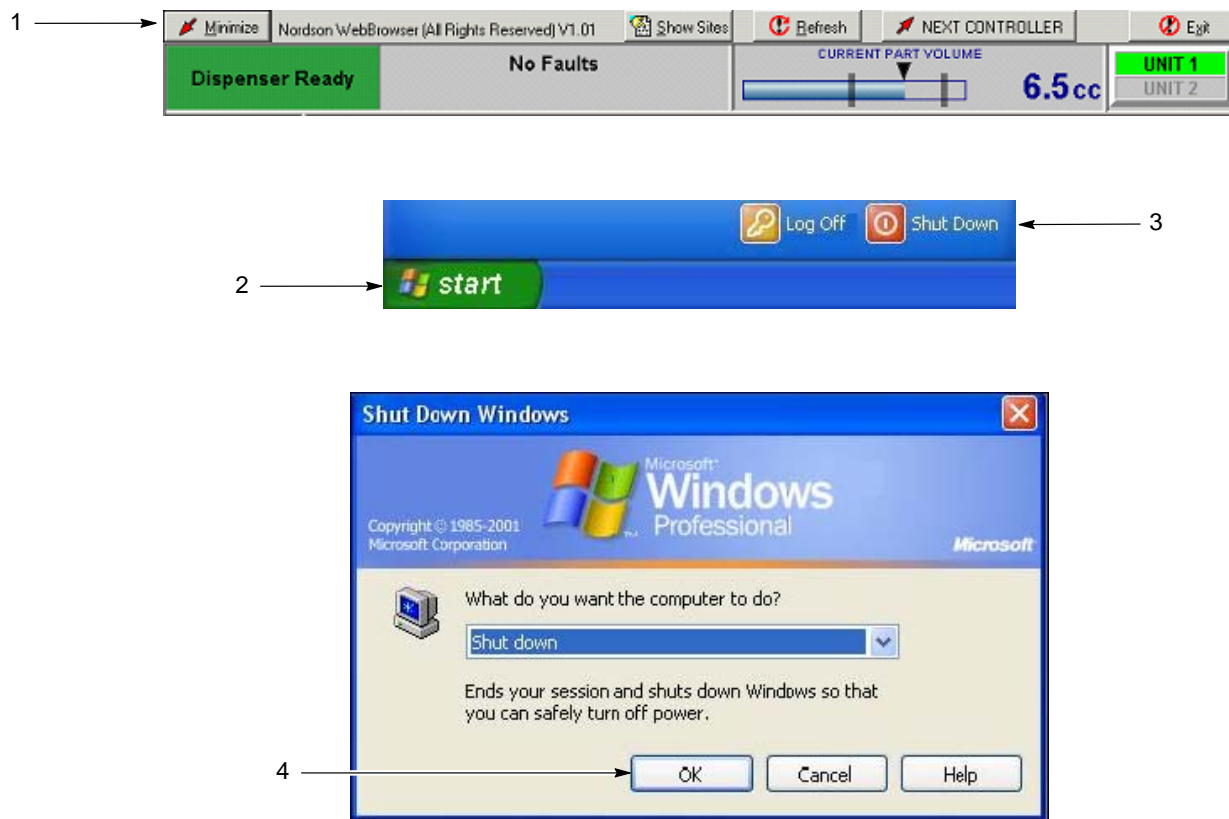

Figure 11 PCI Controller Shutdown
1. See Figure 11. Touch **Minimize** (1) at the top of a screen display.
2. Touch **start** (2) on the Windows task bar to access the **Start Menu**.
3. Touch **Shut Down** (3) on the **Start Menu**.
4. Make sure that **Shut Down** is displayed in the **Shut Down Windows** field. Touch **OK** (4).